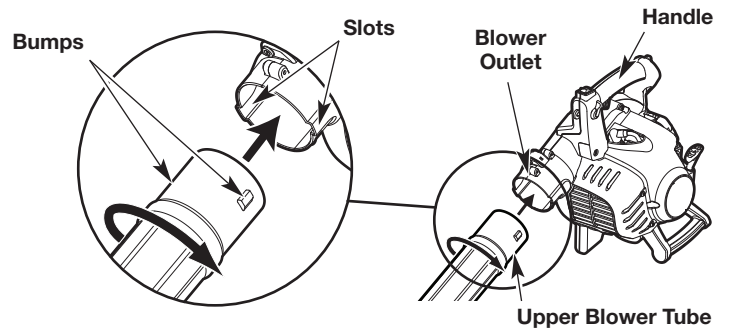

Fig. 1
2. Align the bumps on the upper end of the upper blower tube with the slots on the blower outlet (Fig. 1).
3. Insert the upper blower tube into the blower outlet (Fig. 1).
4. While holding the handle, twist the upper blower tube clockwise until it locks into place (Fig. 1).